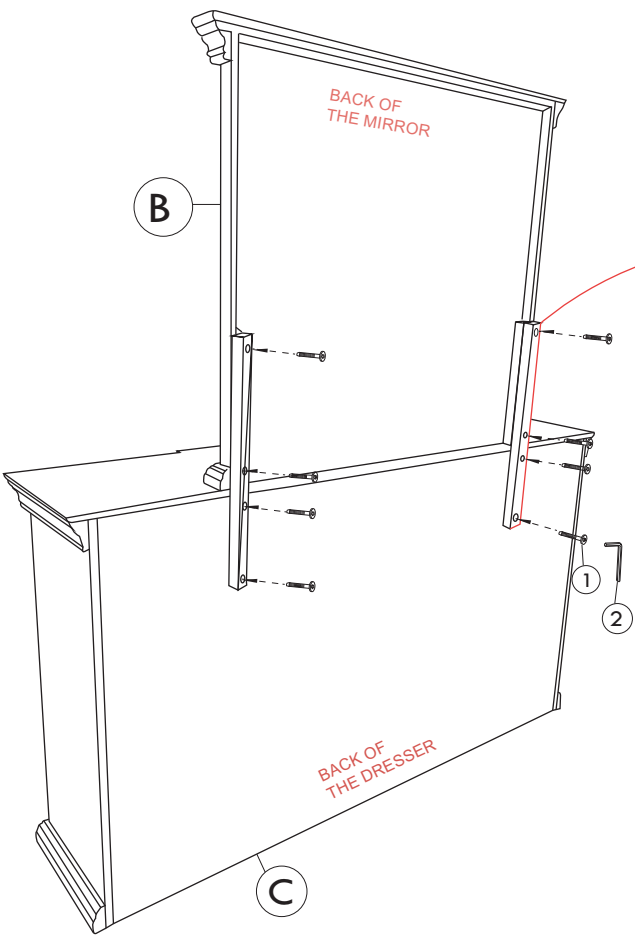
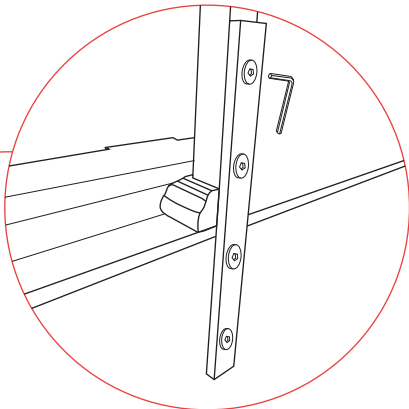

FIG 2
Fig. 3
- II.- PLACE THE MIRROR (B) ON THE DRESSER (C) AS SHOWN IN Fig. 2
- III.-ATTACH THE MIRROR BRACKETS (A) TO THE BACK OF THE MIRROR (B) AND TO THE BACK OF THE DRESSER (C) MAKING THE HOLES MATCH AS SHOWN IN Fig. 2
- IV.- PLACE THE ALLEN BOLTS (1) IN EACH HOLE.
- V.-TIGHTEN ALL BOLTS AS SHOWN IN Fig. 3
- 2.- SCREW THE CROSS BRACE (A) TO THE BASE (B) WITH ONE BOLT PER SIDE TO THE AS SHOWN IN FIG. 2
- 3.- PLACE THE TOP OF THE TABLE (C) UPSIDE DOWN OVER A CLEAN SURFACE
- 4.- PUT THE BASE (B) OVER THE TOP OF THE TABLE (C) AND SCREW IT AS SHOWN IN FIG. 3
- III.-PLACE THE BRIDGE ON THE TWO PIERS AS SHOWN IN Fig. 3 AND PLACE THE SCREWS (1) THROUGH THE METAL BRACKET (3) AS SHOWN IN FIG 3.1 AND FIG. 3.2.